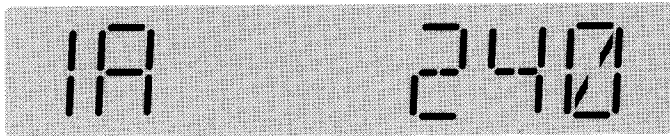

Figure 4-16 Typical Meter Menu Display
- Step 3:** Use the **Select** pushbutton to enter the selected menu and the first displayed parameter will appear in the **Function Display**. In the case of the **Meter** menu, the display would be **Phase A Current** (Figure 4-16).